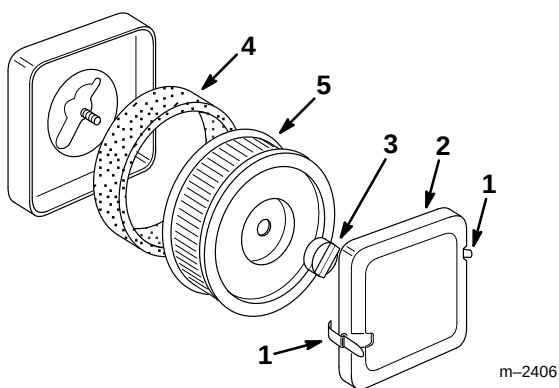

Figure 18
2. Clean around the air cleaner to prevent dirt from getting into the engine and causing damage. Pull out on retaining tabs and remove the air cleaner cover (Fig. 18).
3. Unscrew knob and remove the air cleaner assembly (Fig. 18).
4. Carefully slide the foam element off the paper element (Fig. 18).
1. Carefully slide the foam element onto the paper air cleaner element (Fig. 18).
2. Place the air cleaner assembly onto the air cleaner base (Fig. 18). Secure with knob.
3. Install the air cleaner cover and secure with tabs (Fig. 18).